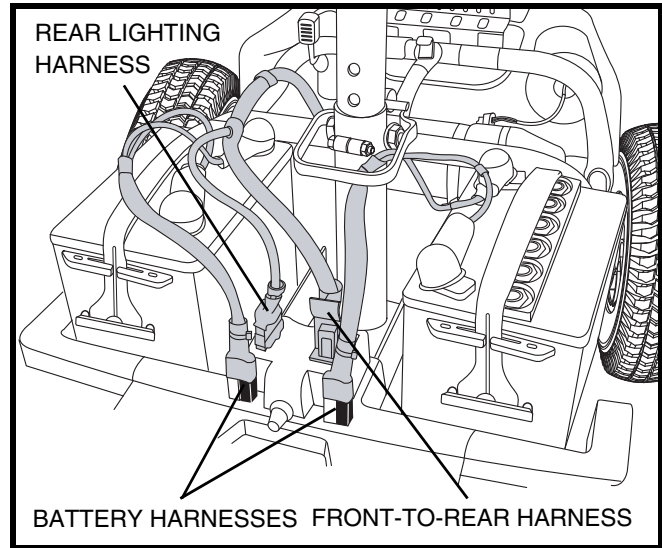

Figure 21. Harness Connections
5. Unplug the front-to-rear and rear lighting harnesses by squeezing the sides and pulling straight up. See figure 21.
6. Unplug both battery harnesses. Pull each harness straight up. See figure 21.